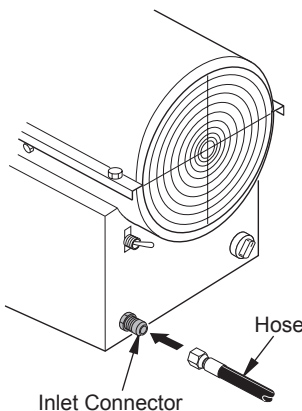

Figure 4 - Hose and Inlet Connector
3. Connect hose to inlet connector. Tighten firmly using a wrench (see Figure 4, page 5).